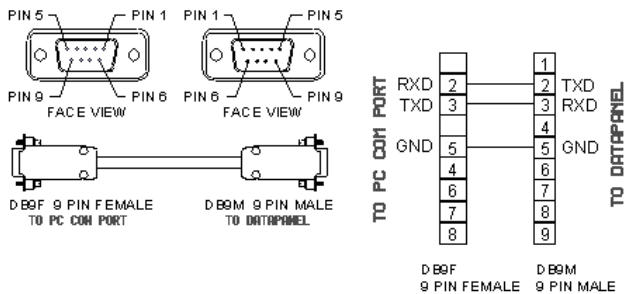

Figure 2-4. Datapanel-PC (Download) Cable
- The download cable is used when transferring databases or protocols from the configuration software to the Datapanel (see Figure 2-4). The cable enables connection to a standard PC and is supplied with the configuration software. For nonstandard PCs, consult the PC manual to check the pin configuration at the PC end of the cable.